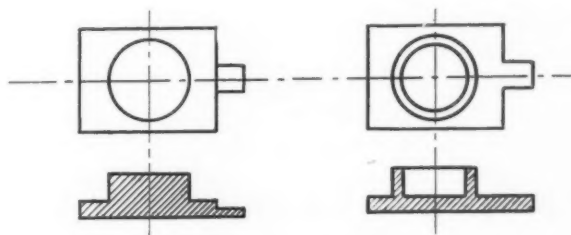

Fig. 3—Undesirable (left) and desirable (right) design of lug or boss from standpoint of metal section
**Section Uniformity.** Uniformity of section thickness is especially desirable from a foundry standpoint, Figs. 3, 4 and 5. This equalizes rate